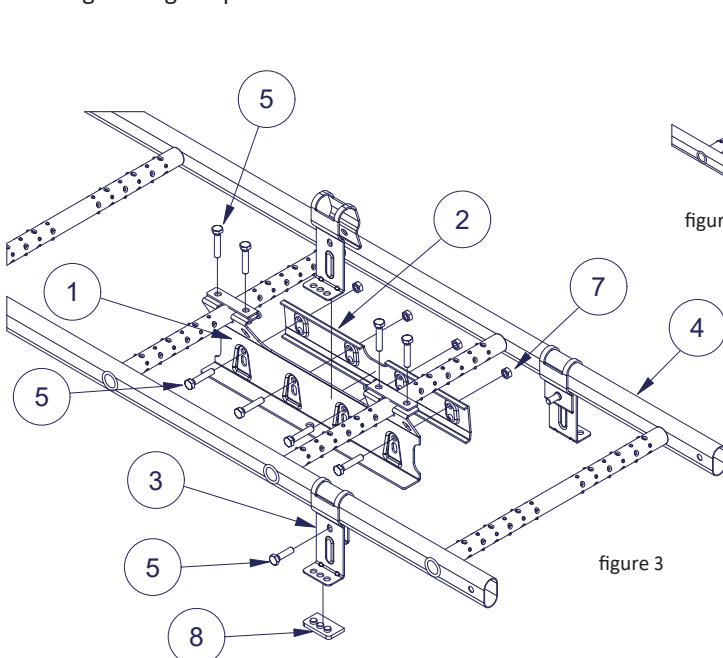

figure 3
- Place the roof ladder rubber seals at the base of the roof ladder fasteners (figure 3).
- Attach the roof ladder fastener to the side rail with one M8x30 hexagon bolt (figure 3).
- Attach the central fastener to the rungs with four M8x30 hexagon bolts (figure 3).